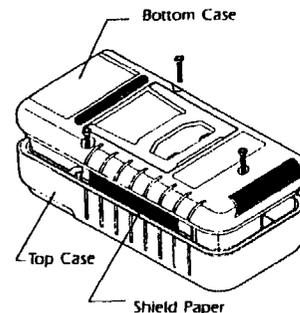

FIG. 1
1. Loosen screws with suitable screwdriver and remove bottom cover as shown in Fig. 1.
4. When finished with the replacement, replace the shielding paper smoothly as shown in Fig. 1, then refasten the PC board and the bottom cover respectively.
1. Loosen screws with suitable driver and remove bottom cover as shown in Fig. 1.
3. Close bottom cover as shown in Fig. 1.